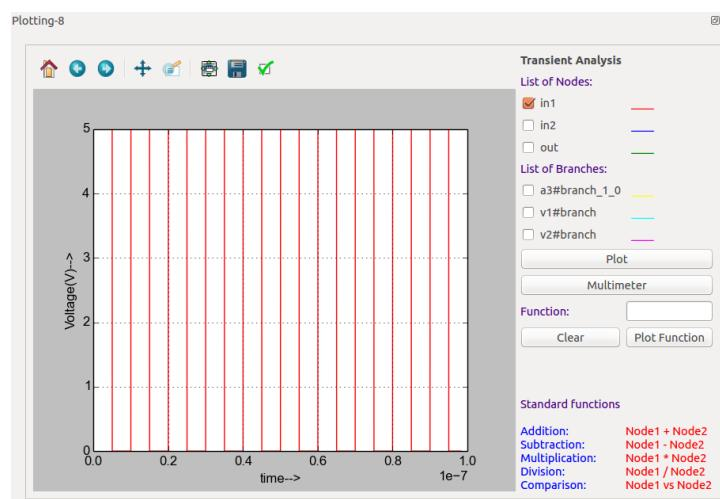
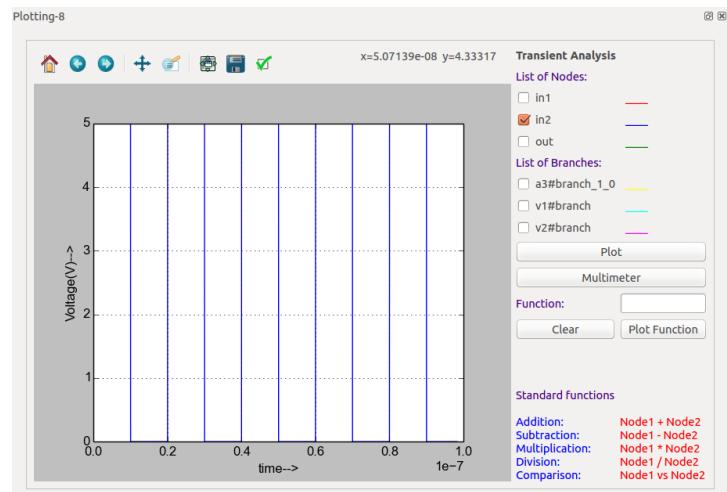
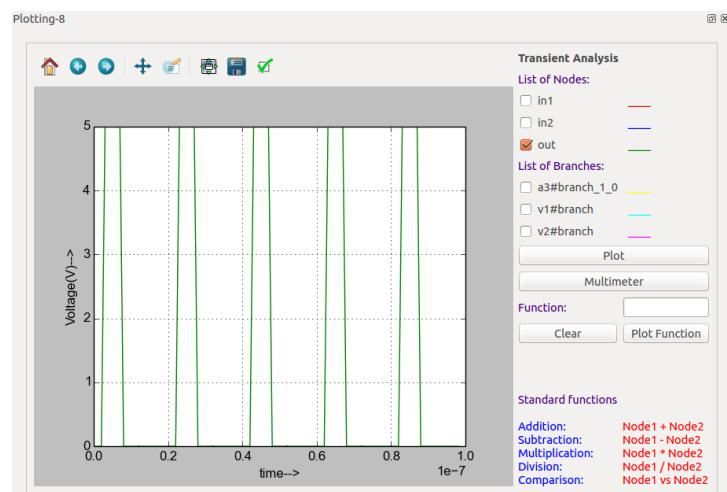

Figure 9.15: Plot of Source V_1
Figure 9.16: Plot of source V2
Figure 9.17: Plot of output
- Now select the required nodes and click on *Plot* button. You can see the plots of input source v_1 , input source v_2 and output as shown in Fig. 9.15, Fig. 9.16, and Fig. 9.17 respectively.